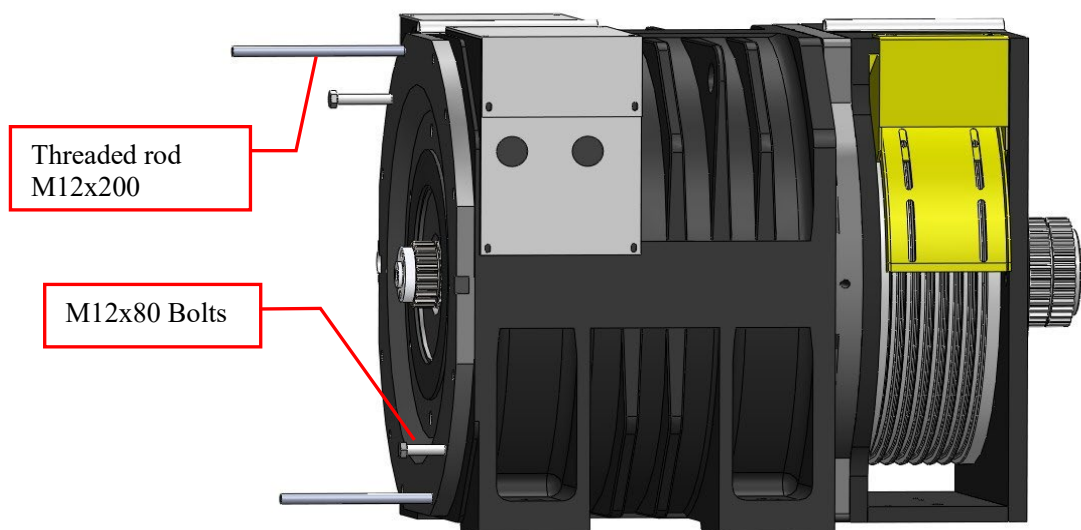

Figure 70 Install Threaded rod and M12 bolts
2. Screw the 2 pieces threaded rod M12x200 into the M12 hole of machine base opposite each other. See Figure 70.